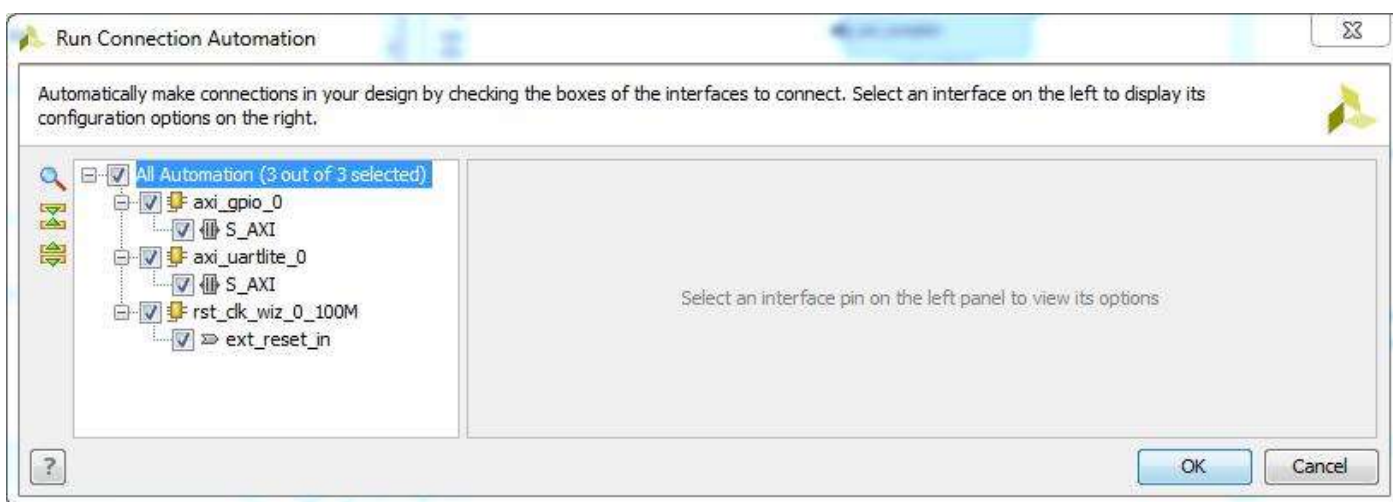

Figure 13: Run connection automation dialog box
2. The Run Connection Automation dialog box opens, as in Figure 13. Check all the interfaces in the left pane as in the figure. You may leave unchecked interfaces, if you plan to connect them at a later time. You should also inspect the options you have for the items you select in the left pane. However, at this point there is no need to change anything.